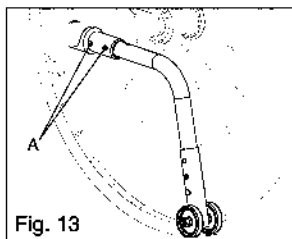

Fig. 13
How to Install the Standard Anti-Tips (Fig. 13)
1. Press the rear anti-tip release pin (Fig. 13:A) on the anti-tip tube so both the release pins are drawn inside.